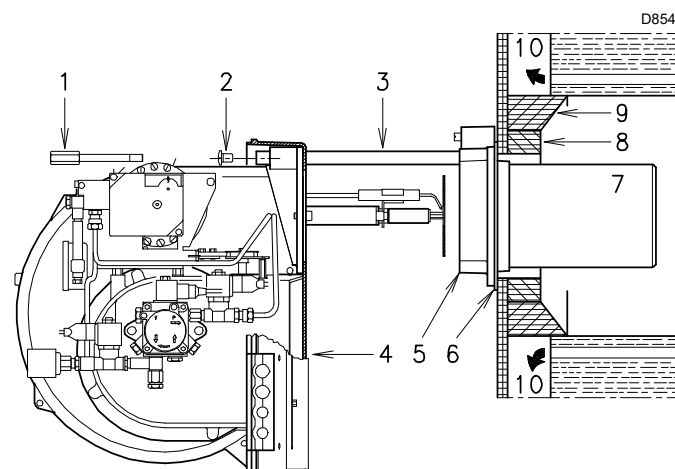

Fig. 12
For boilers with front flue passes 10) (Fig. 12) or flame inversion chambers, a protection in heat-resistant material 8) must be inserted between the boiler refractory 9) and the blast tube 7).
For boilers with a water-cooled front piece, a refractory lining 8)-9)(Fig. 12) is not necessary, unless expressly requested by the boiler manufacturer.
Remove blast tube 7) from the burner 4) (Fig. 12) and proceed as follows:
- slide back the burner on the slide bars as shown in Fig. 12.